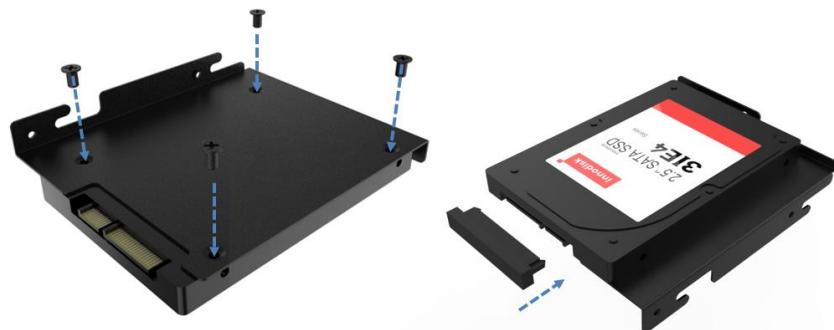

Figure 3-5: HDD Installation
Step 2: Plug in the hard drive cable, and install the HDD bracket back into the DRPC-240-TGL (pay attention to the positioning stud) using 3 screws (**Figure 3-5**).